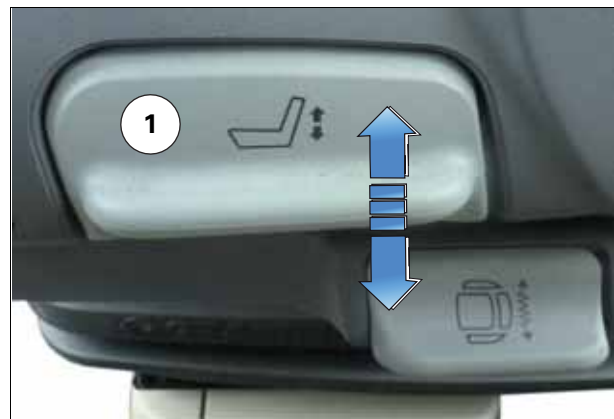

Fig. 19.
The height adjustment is continuously adaptable due to the pneumatic system: Raise or lower the seat by pulling or pressing on the weight adjustment handle (1). When the upper or lower height limit is reached, the height adjusts automatically, providing minimum shock absorption travel *fig. 19*. Release the handle at the required height or at the upper stop.